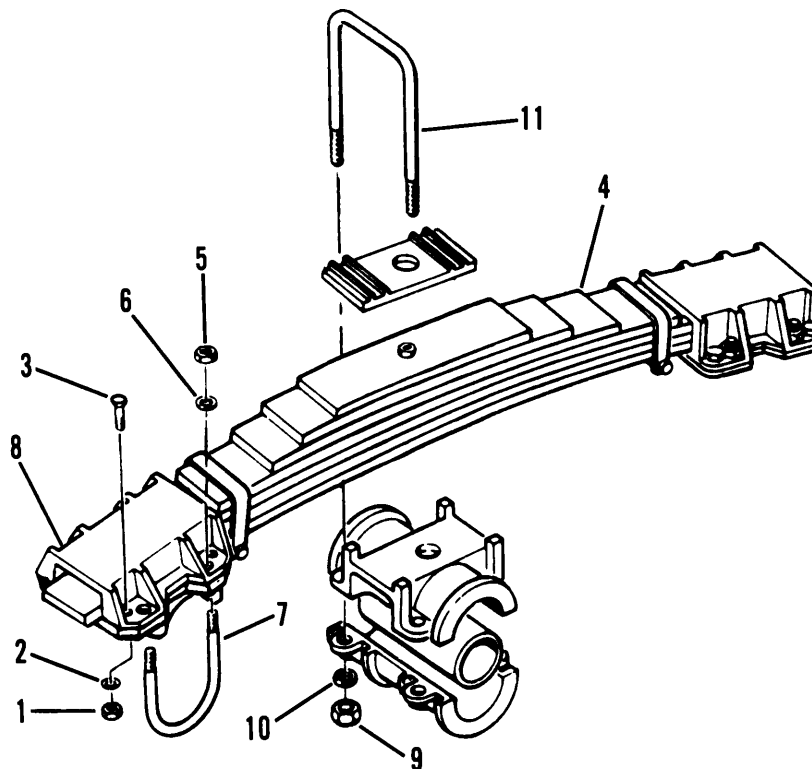

Figure 5-10. Spring Assembly
- (1) Support both axles and frame.
- (2) Remove four nuts (1, fig. 5-10), washers (2) and bolts (3) from each side of spring assembly (4).
- (3) Remove four nuts (5), washers (6) and two u-bolts (7) from each side of spring (4).
- (4) Remove spring cap (8) from each side of spring (4).
- (5) Remove four nuts (9), washers (10) and two large u-bolts (11) that secure spring (4) to trunnion tube.
- (6) Remove spring (4).
- (1) Position spring (4, fig. 5-10).